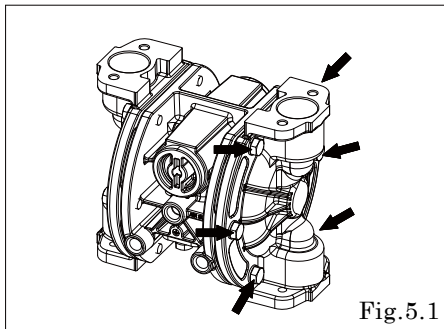

Fig.5.1
- Remove the 12 retainer bolts from the out chamber, and remove the out chamber. [Fig.5.1]